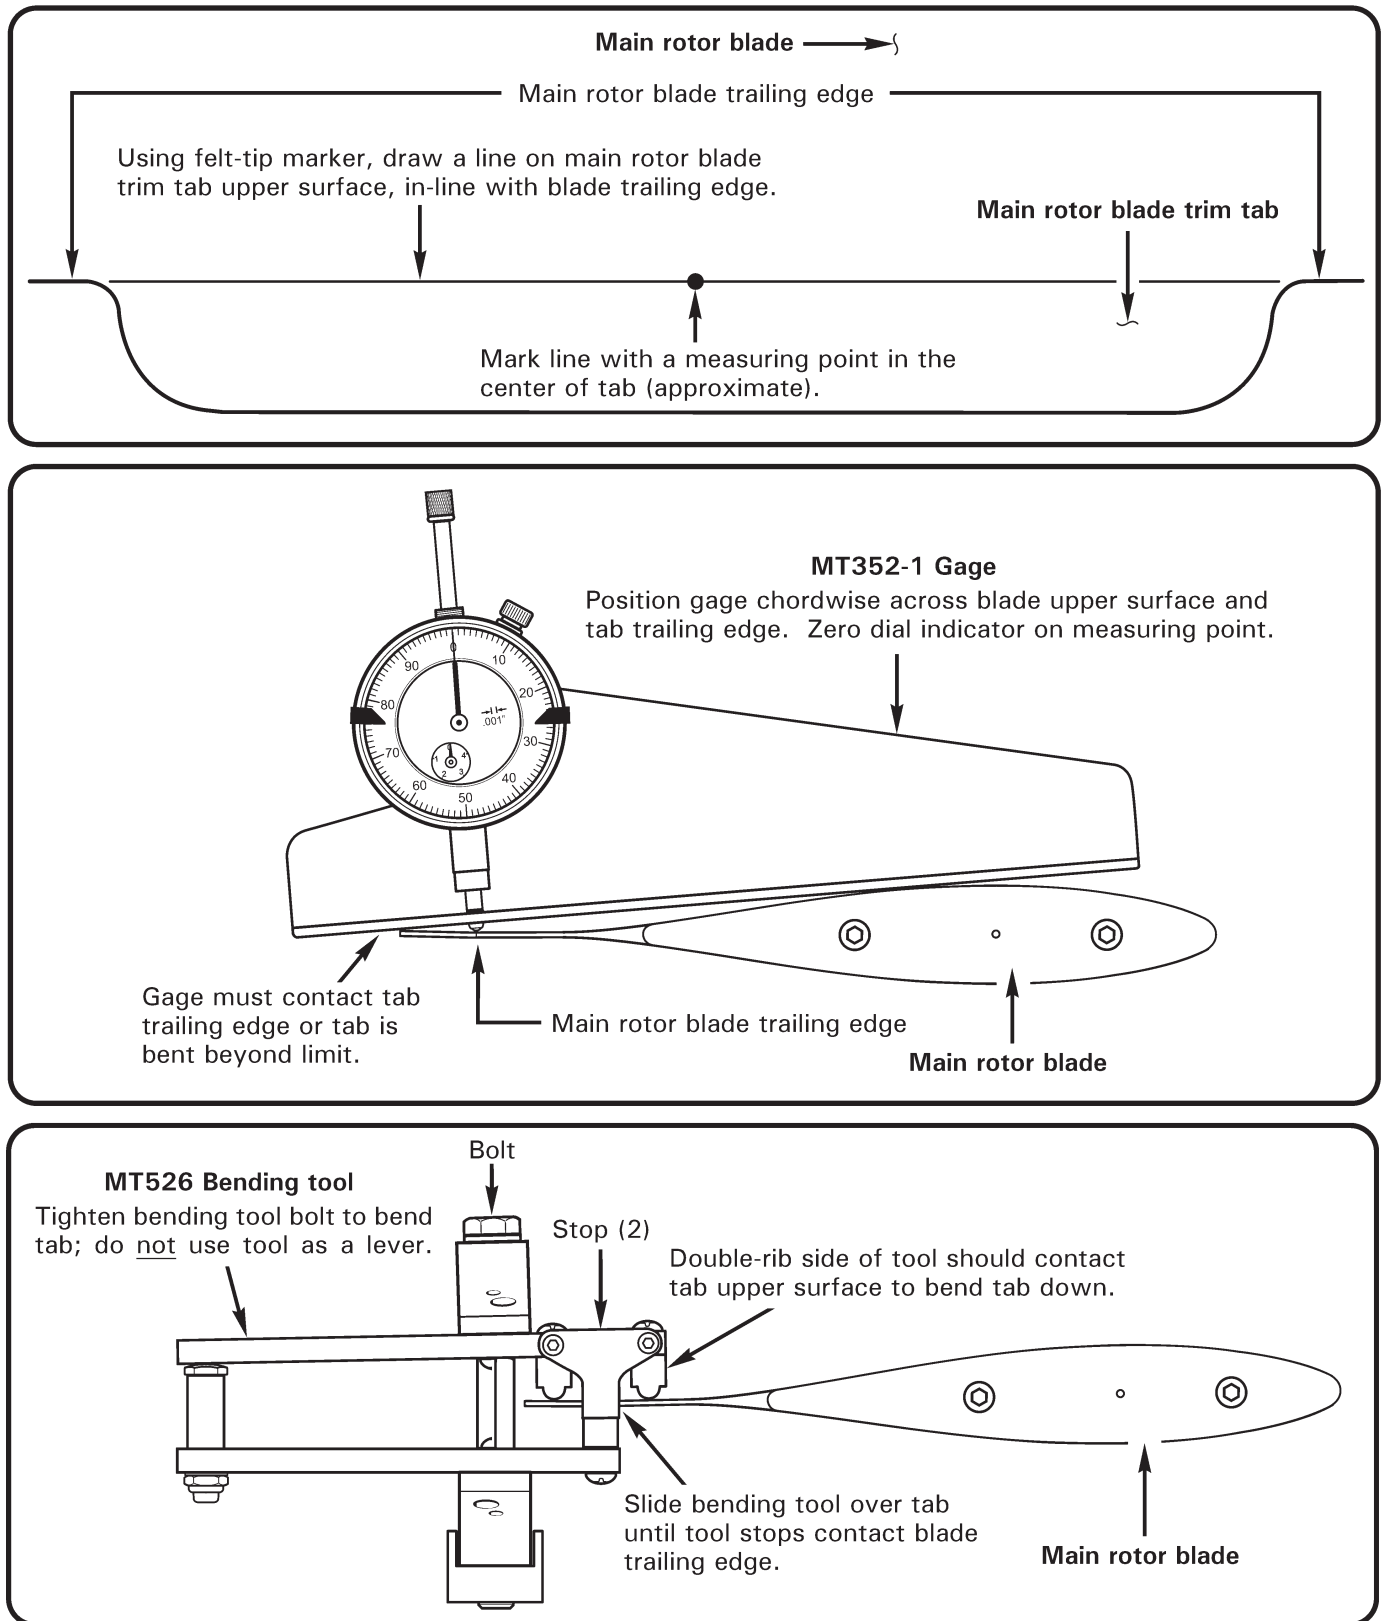

FIGURE 10-13 MAIN ROTOR BLADE TRIM TAB ADJUSTMENT
1. Using felt tip marker, ink mark main rotor blade trim tab per Figure 10-13. Mark line with a measuring point in the center of the tab (approximate).